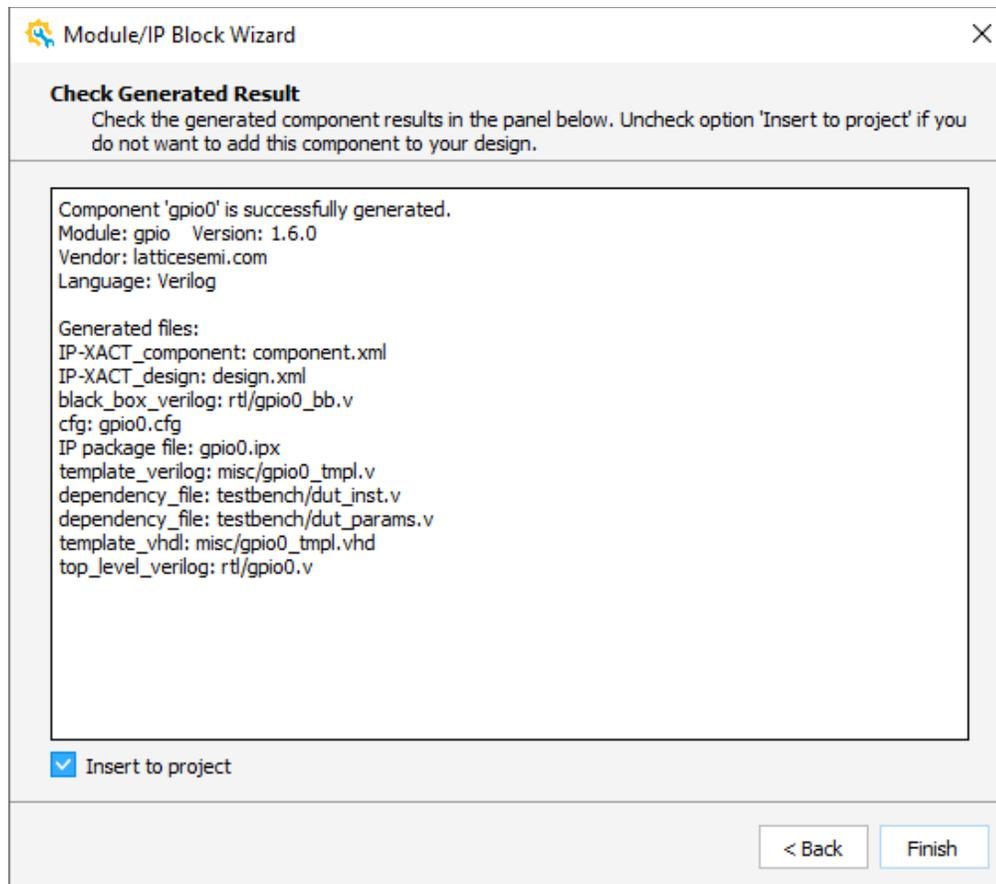

Figure 2.17. Module/IP Block Wizard - Check Generated Result
- Click **Generate**. Module/IP Block wizard shows the Check Generated Result page (Figure 2.17).
6. Select **Insert to project** (Figure 2.17) at the bottom of the Check Generate Result wizard.